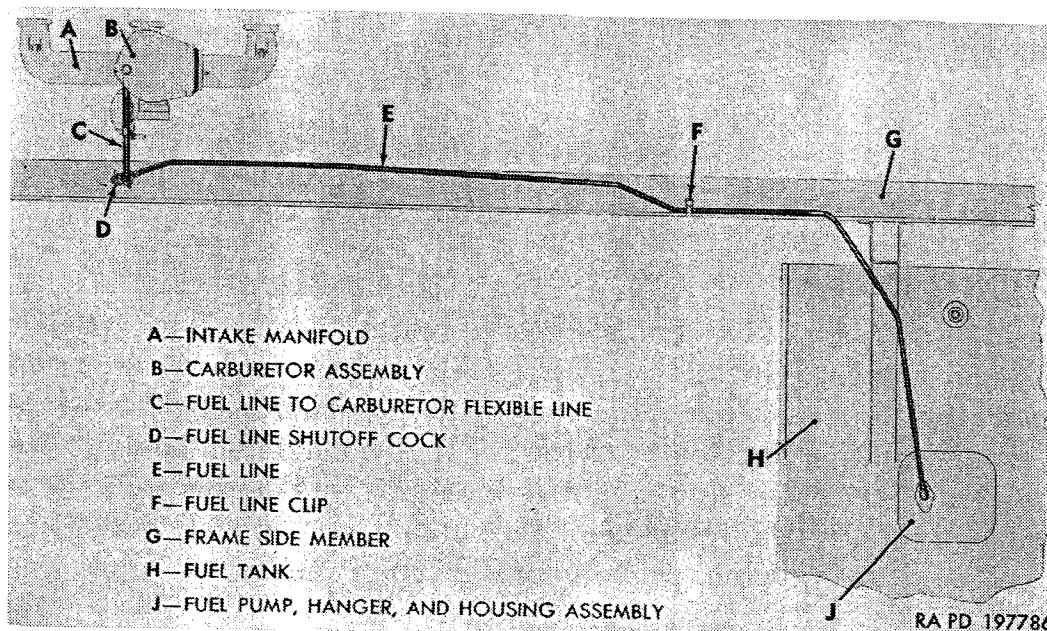

Figure 122. General arrangement of fuel system units.
a. Description. Units which comprise fuel and air intake system include: carburetor and governor system, carburetor controls, air cleaner assembly, fuel tank and lines, electric fuel pump assembly, and engine primer pump and lines (when used). General arrangement of fuel system major items is shown in figure 122. Manifold heat control and chassis unit vent and breather line system, which is related to fuel and air intake system operation, is also described in this section. Electric fuel gage indicates fuel level in tank.